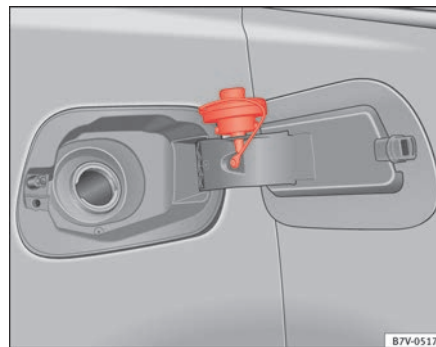

Fig. 163 Open tank flap with tank cap attached to the holder.
- Unscrew the tank cap anti-clockwise and insert it in the hole in the tank flap hinge ⇒ fig. 163.